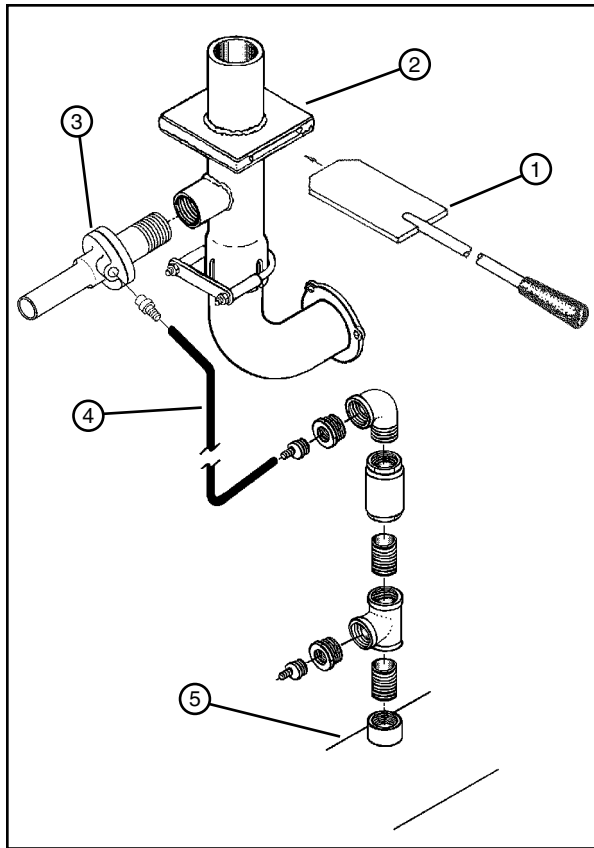

Figure 64-1 1. Primer Slide
The exhaust primer is used for priming of pump installations with suction inlets in an Engine Generator Pump Application. See Figure 64-1.
2. Start the engine and insert the primer slide into the primer assembly, diverting exhaust to the exhaust primer. See Figures 64-1.